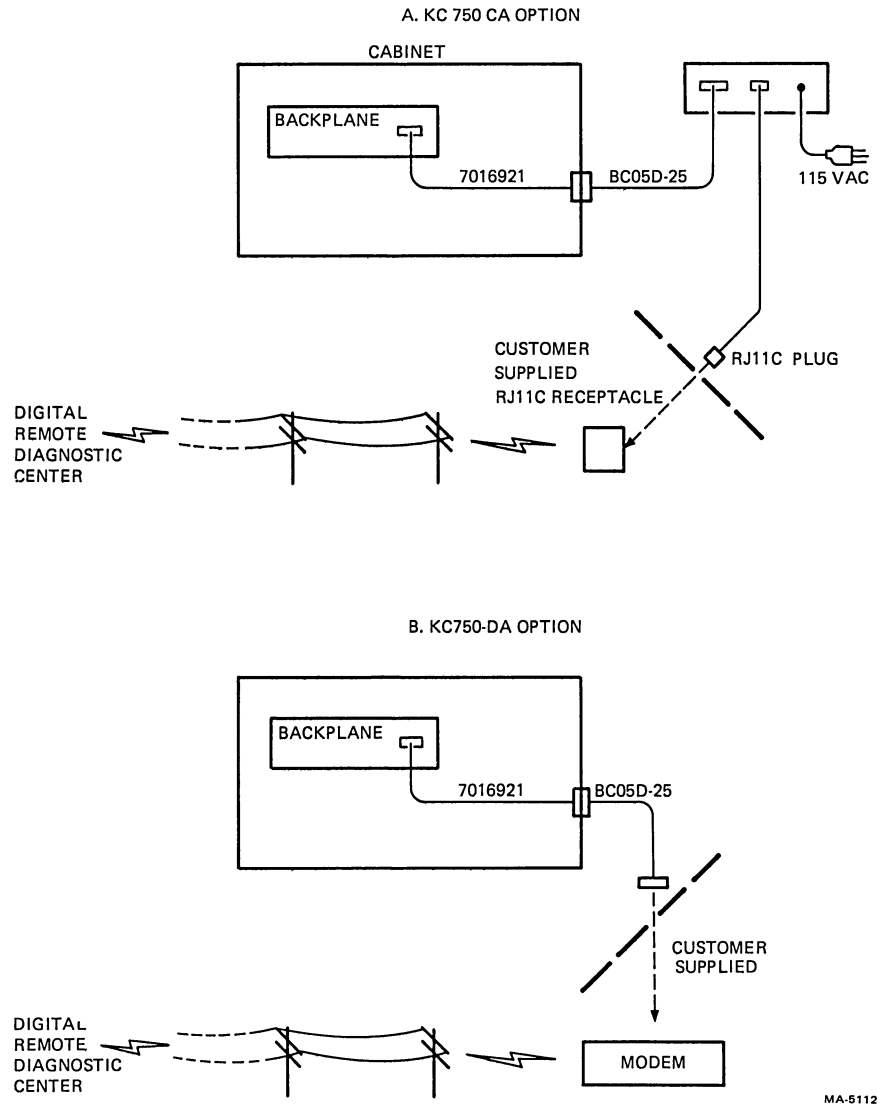

Figure 3-1 KC750 Cabling
Perform the following procedure to install the KC750 option in the VAX-11/750 processor. Refer to Figure 3-1 for the cabling diagram.
12. Connect the modem to the telephone jack that has been already installed. This is an RJ11C receptacle in the US. Refer to Figure 3-1 for complete circuit block diagram.